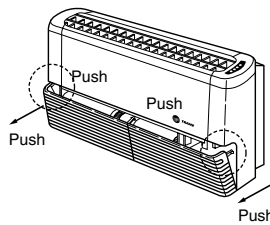

Figure 7
6. Remove the return grille, squeeze the center of plastic linkage, then unscrew the two end linkages to free them from the retainers (Figure 7).